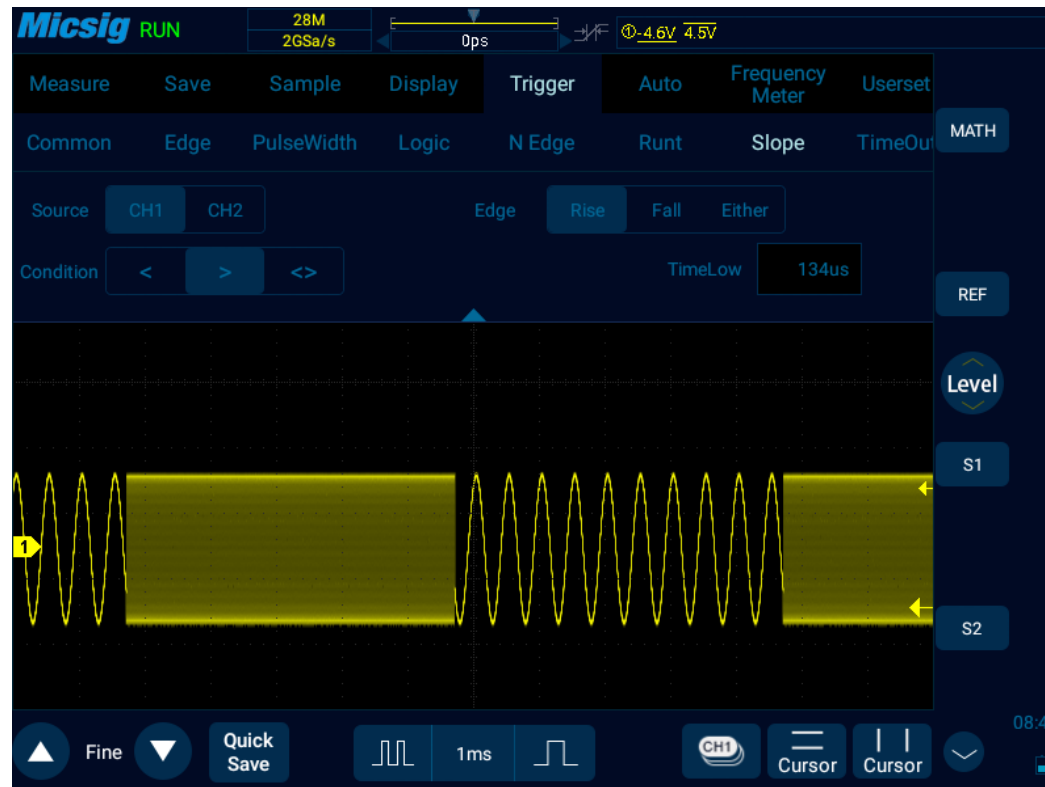

Figure 6-26 Slope Trigger Setting Menu
- 1) Tap “Trigger” on the main menu to open the trigger menu, select the slope trigger in the trigger type, and set the slope trigger as follows, as shown in Figure 6-26: